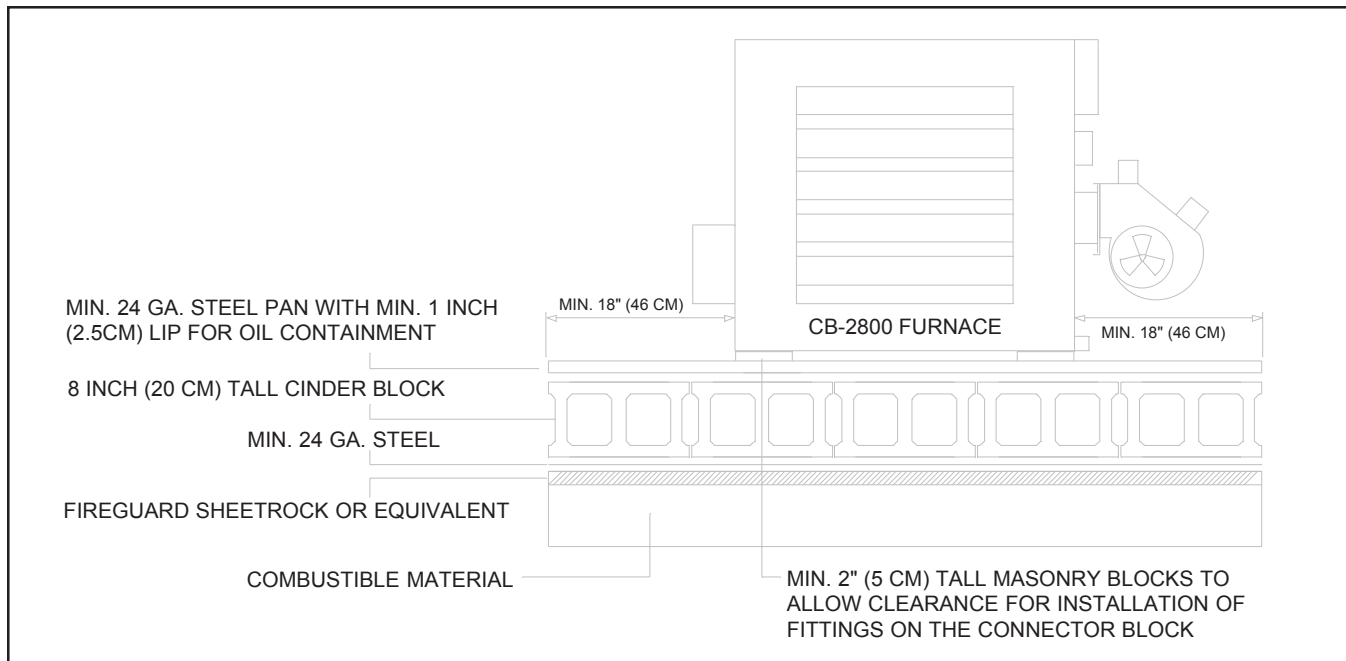

FIGURE 4D - Furnace Installed on Non-Combustible Floor
CAUTION: If you are installing your furnace in an area with a combustible floor, you must construct a *non-combustible* floor as shown in Figure 4D. Refer to NFPA-31 or CSA-B-139.
1. Refer to Figure 4D and follow the instructions as provided in the diagram.